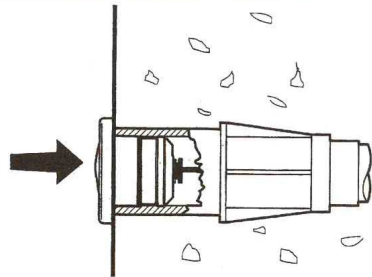

Fig. 7
4. Then fit the light itself, pushing it into place (Fig. 7).